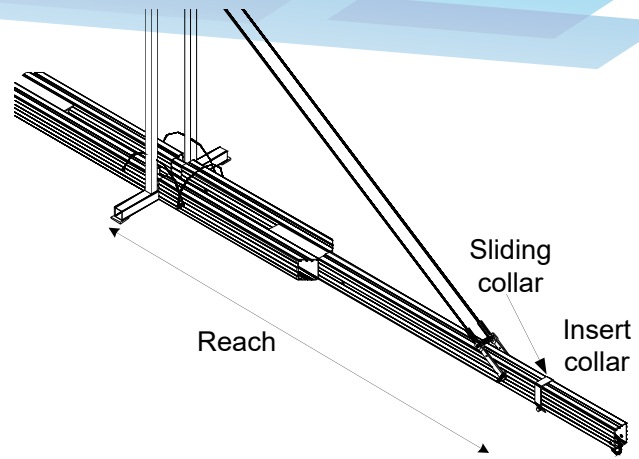

Figure 18. Reach with Sliding Collar
2. You must use a Sliding Collar (WSH 5) in order to work at less than 144" reach. Install the optional Sliding Collar as shown in Figure 18. Reach is calculated from the base of the Cable Truss Support.